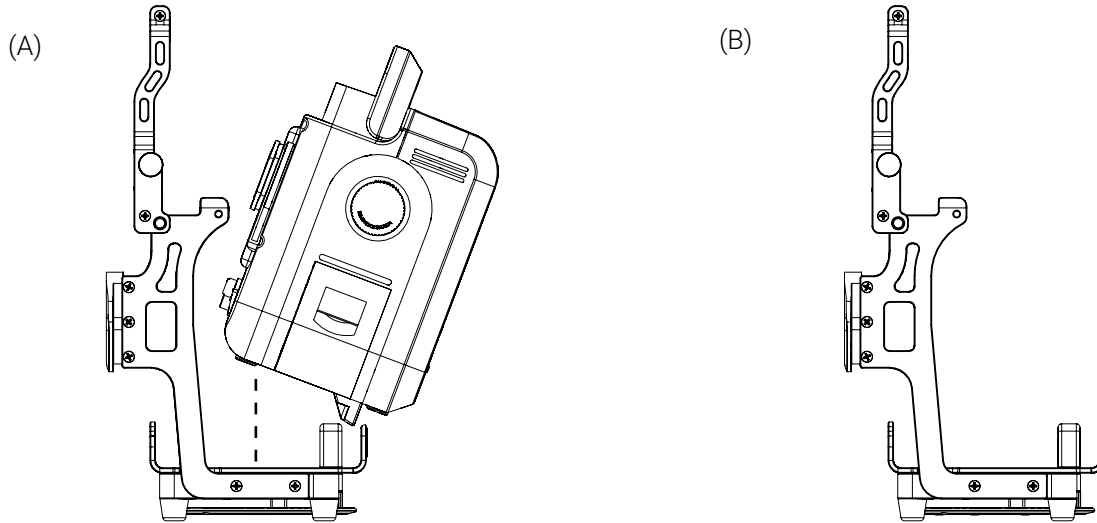

Figure 5: VOCSN ventilator removed from Bracket Pro Serie 280
2. Grab the ventilator handle and tilt the ventilator forward, leaning it on the front fold of the bracket (Figure 5).